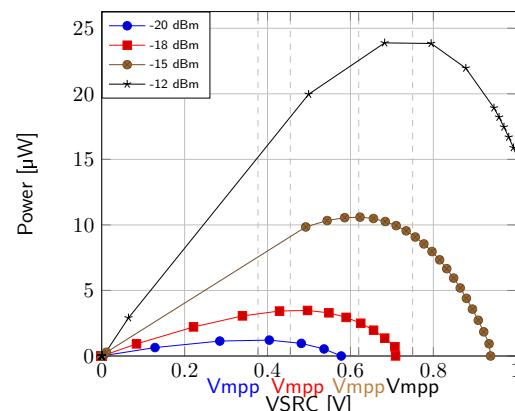

Figure 10: Rectifier power-voltage curves for different input power level (863-868 MHz band)
- Use the current-voltage doublet with the voltage value closest to V_{mpp} to evaluate the efficiency in regime (see Figure 10).